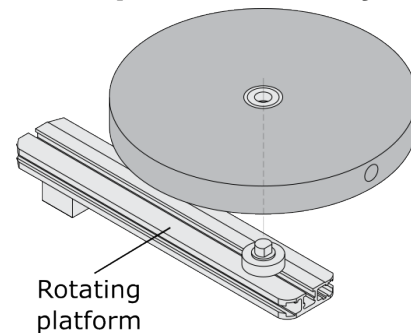

Figure 1. Connecting the Rotational Inertia Accessory to the rotating platform using the Platform Adapter
2. Slide the square nut into the track of the rotating platform, positioning the platform adapter at the desired radius, as shown in Figure 1.